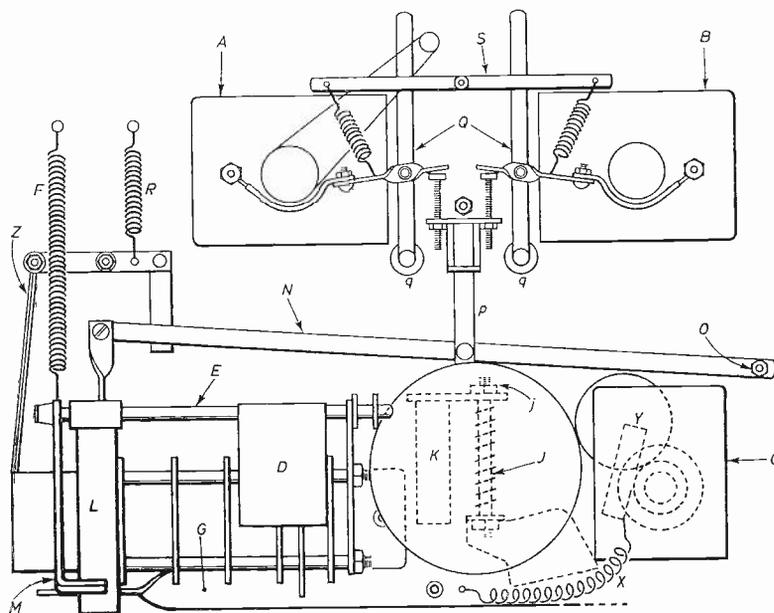
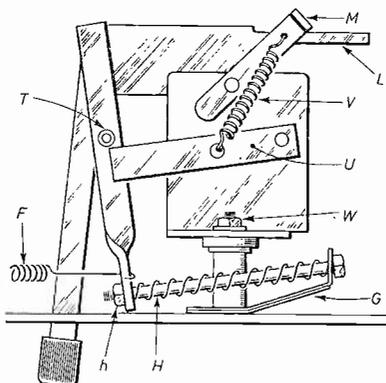

Fig. 1: Underside view of the Motek K10 tape deck showing the main components of the mechanism. (This drawing is not to scale)
Fig. 2: Side view of the switch mechanism used in the Motek K10 tape deck.
An indication of the mechanics of this widely used deck is shown in Fig. 1. This drawing is not to scale, and the view of the underside only shows sufficient of the mechanism to illustrate our discussion.
fixed to a swivel arm (E). A linkage lever on the same arm moves against the tension of spring (F) and actuates lever (G). The precise operation of these levers is better seen in Fig. 2. Here it is shown that the movement at the lower (deck direction) extremity of the swivel arm is transmitted to (G) by a rod (H), against a coiled spring tension. The length of this rod is controlled by its locknut, as is the length of the other transmission rod, (J), shown in Fig. 1. The inner end of lever G actuates this latter rod, moving the plate (K) forward.
Referring again to Fig. 2, we see that a bush (T) is free to slide along the inter-
Small points to watch are the correct height of spool hubs and the tension of Pause cord. The latter is shown at (Z) in Fig. 1. It will be noted that it passes through a fibre washer at the linkage end. Pivotal action enables the outer end of lever (G) to be pulled by this cord when the Pause lever is operated, disengaging the pressure pad assembly. Incorrect tension can cause some peculiar symptoms. Check also the correct tension of return spring (R).